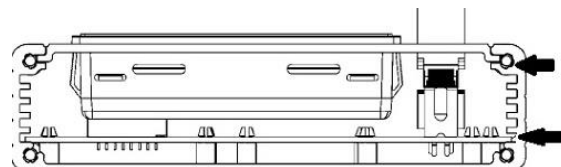

Figure 231
10. After the components are assembled slide the entire assembly into the case. Make certain that the front cover aligns with the top groove and the circuit board aligns with the bottom groove. Figure 231